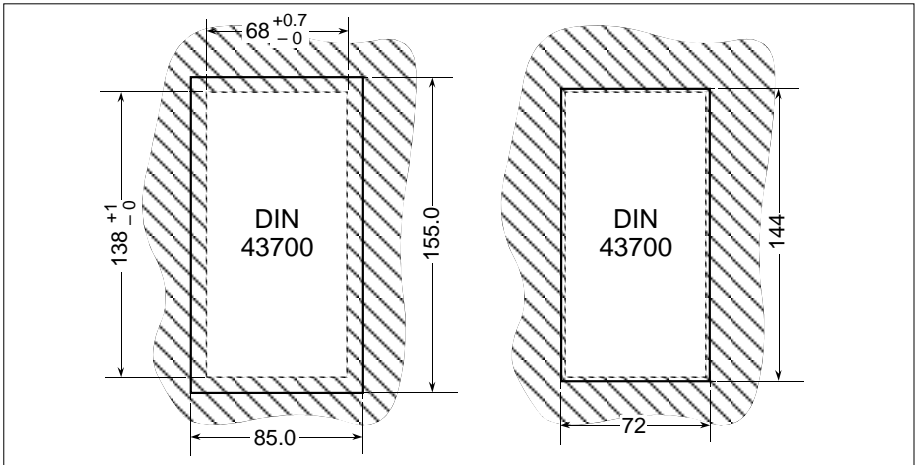

Figure 2-3 Blanking plate dimensions — IP65 (left) & non-IP65 (right)
- Each sleeve must be mounted in its own singular DIN43700-sized aperture. See Figure 2-3 for details of the aperture dimensions.
- T962 IP65 blanking plates must be fitted in unoccupied panel apertures. Figure 2-3 shows blanking plate dimensions for IP65 (T962) and non-IP65 (T961).